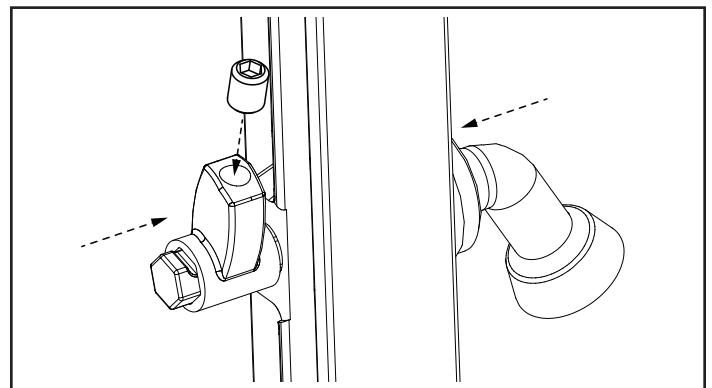

Figure 4
7. Firmly hold pawl and handle to compress wave washer. Install and snug first set screw. Do not over-tighten, Figure 4.